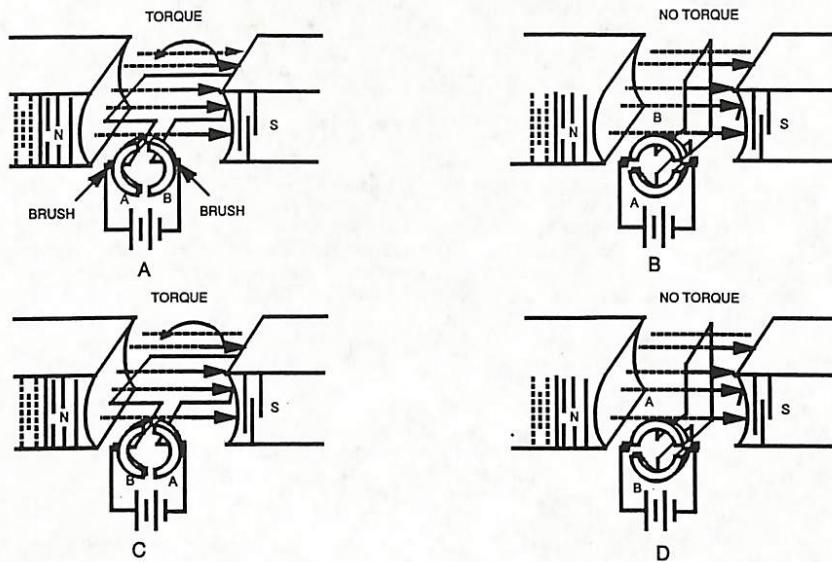

Figure 6.
**Torque.** As discussed earlier, a coil of wire (single loop) through which current flows will rotate when placed in a magnetic field. Figure 6 represents a coil mounted in a magnetic field in which it can rotate. If the connecting wires from the battery were permanently fastened to the terminals of the coil, when current flowed, the coil would rotate only until it aligned itself with the magnetic field, then stop. Torque at that point would be zero. However, a motor must keep rotating, so it becomes necessary to change the direction of current flow through the coil. As the plane of the coil becomes parallel to the lines of force, a change of commutator segments takes place and the direction of current flow is in the opposite direction. This allows the coil to continue rotating.
**Rotating Coil.** In Figure 6, the terminals of the coil are labeled A and B. As the coils rotate, they slide against the fixed terminals (brushes). The direction of current flow in the side of the coil next to the north-seeking pole is outward; the force acting on that side of the coil turns it downward. The commutator changes the current from one wire to another; the segments (A and B in Figure 6A) are connected to the ends of the revolving loop.